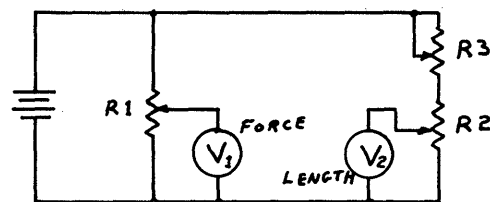

FIG. 3
A potentiometer is mounted to the shaft of the cam and a multi-turn potentiometer is mounted on the take-up drum. (For you non-electrical cats, a potentiometer is a variable resistor like the volume control on a radio.) The circuit in Fig. 3 shows the electrical schematic. R1 is the force potentiometer, R2 is the potentiometer which produces a voltage proportional to the amount of stretch, and R3 can be set to minimize the error due to A1. In use, the motor is hooked up with zero slack and the position of the drum and cam set so the potentiometers R1 and R2 are zeroed. As the drum is turned, the amount of stretch can be read from voltmeter V2 and the force from V1. If you use a tape recorder, you can conduct the test by yourself by reading out the voltages at each stage of the test. You can then graph the test as you play back the tape. If anyone is interested in this type of test, I will supply more information on request.
3. If you have access to a laboratory X-Y plotter, it is possible to trace out the energy curve directly and continuously; an entire test can take as little as 2 minutes. To use a plotter, replace the voltmeters in Fig. 3 with the plotter input leads.